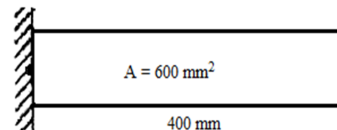

Figure 10
9. (a) Consider a uniform cross-section bar as shown in Figure 10 of length L made up of material whose Young's modulus and density is given by E and ρ . Estimate the natural frequencies of axial vibration of the bar using lumped mass matrix. Consider the bar as one element. [7M]
- (b) For the one dimensional bar shown in Figure 10, determine natural frequencies of longitudinal vibration using two elements of equal length. Take $E = 2 \times 10^5\text{ N/mm}^2$, $\rho = 0.8 \times 10^{-4}\text{ N/mm}^3$, and $L = 400\text{ mm}$. [7M]